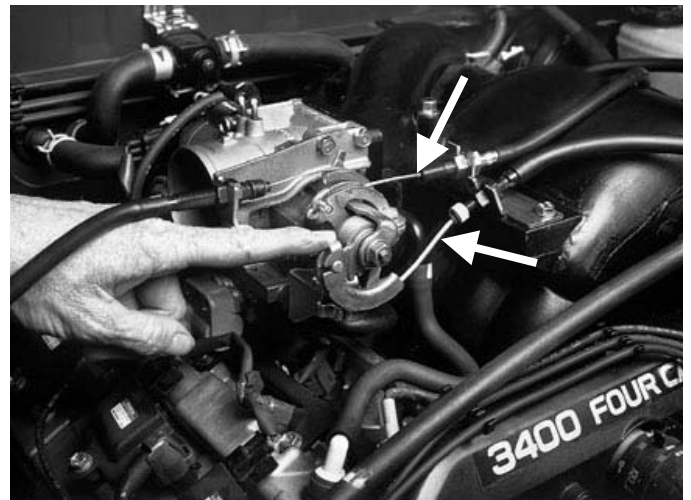

Figure 22
11. Replace the transmission kickdown cable and throttle cable (if necessary, Figure 22).